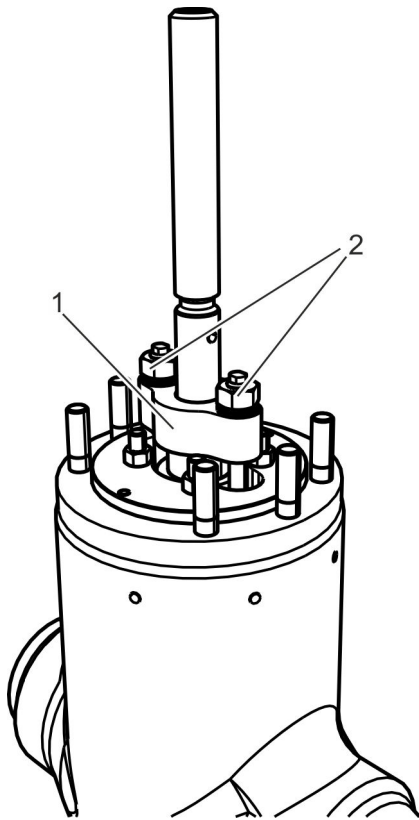

Fig. 24: Mounting the gland follower flange
12. ➤ Attach the gland follower flange (Fig. 24/1) and bolt on uniformly with nuts (Fig. 24/2) as specified by the manufacturer.